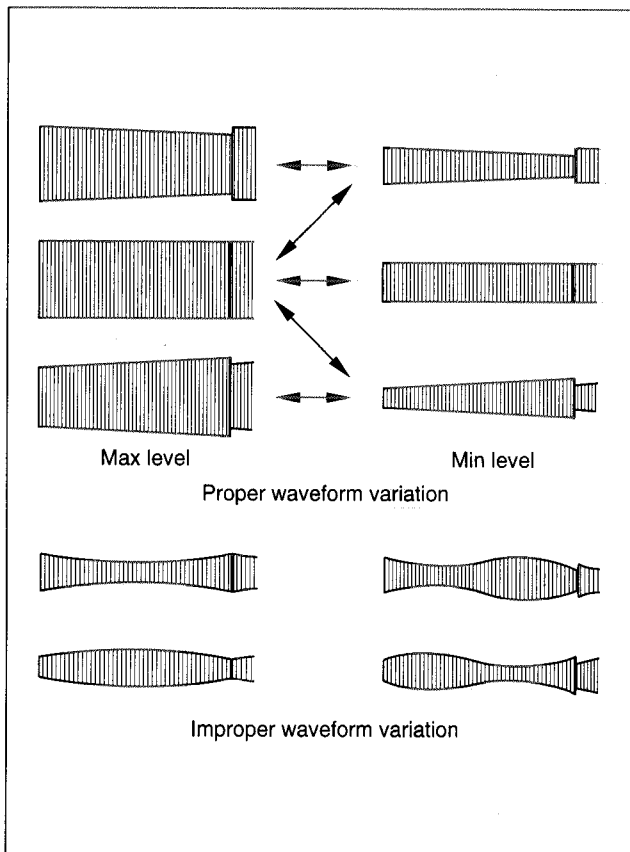

Fig. 2-3-1
- (1) Connect the oscilloscope to TP106(PB.FM) of the main board assembly and to TP111(D.FF) of the main board assembly for external sync connection.
- (2) Playing the alignment tape MHPE, observe the FM waveform.
- (3) Press the channel buttons (+, -) simultaneously during playback to enter the manual tracking mode. (This also brings tracking to the centre.)
- (4) Make sure that there is no significant level drop of the FM waveform caused by the tracking operation, with its generally parallel and linear variation ensured. Perform the following adjustments when required. (See Fig.2-3-1.)